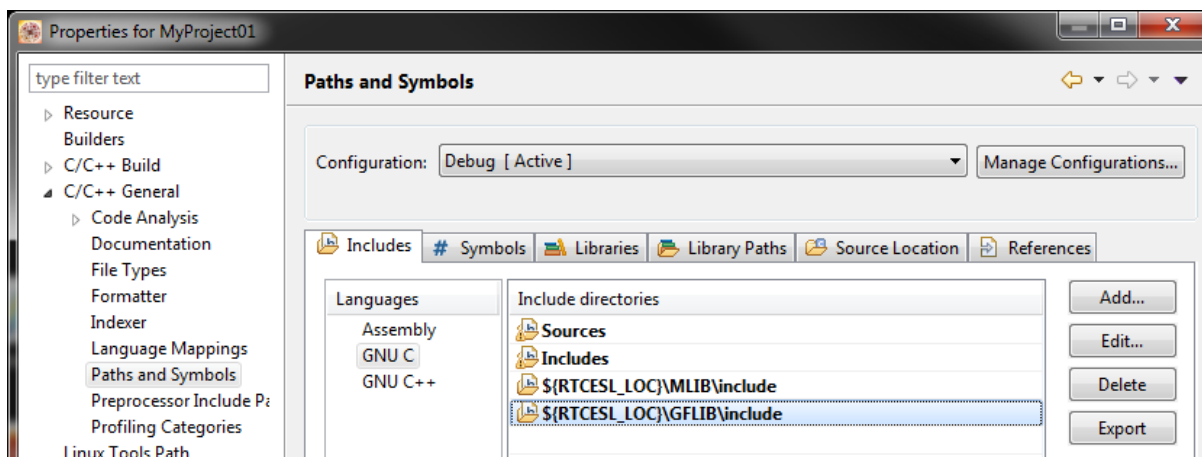

Figure 1-26. Compiler setting
15. In the right-hand dialog, select the Includes tab, and click GNU C in the Languages list. See Figure 1-26.
20. Click OK, and you will see the paths added in the list. See Figure 1-26. Click OK.